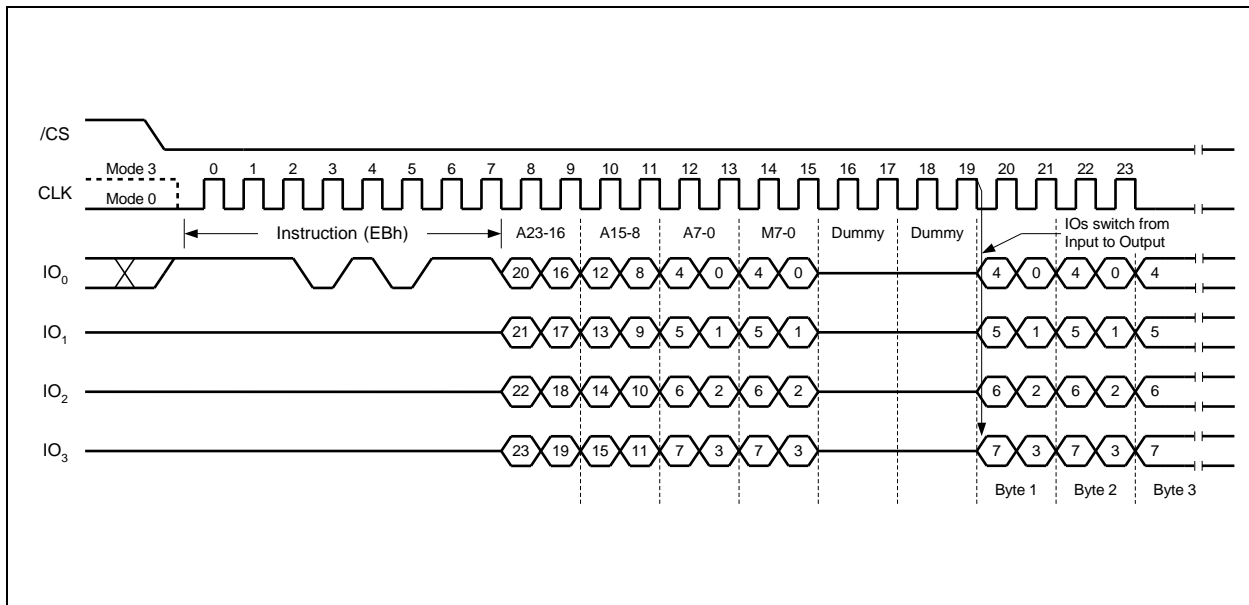

Figure 14. Fast Read Quad I/O Instruction Sequence Diagram
The Fast Read Quad I/O (EBh) instruction is similar to the Fast Read Dual I/O (BBh) instruction except that address and data bits are input and output through four pins IO₀, IO₁, IO₂ and IO₃ and four Dummy clock are required prior to the data output. The Quad I/O dramatically reduces instruction overhead allowing faster random access for code execution (XIP) directly from the Quad SPI. The Quad Enable bit (QE) of Status Register-2 must be set to enable the Fast Read Quad I/O Instruction. After the input Address bits (A23-A0), as shown in Figure 14, M7-M0 should be set to FFh.